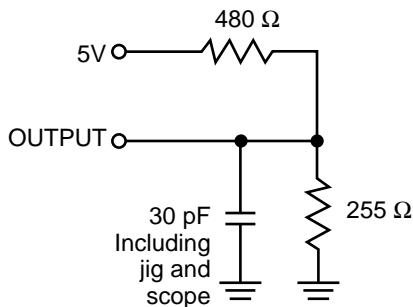

Figure 1a.
1. Test conditions assume signal transition times of 5 ns or less, timing reference levels of 1.5V, input pulse levels of 0 to 3.0V and output loading specified in Figure 1a.
Output Load	See Figures 1a and 1b
1. Test conditions assume signal transition times of 3 ns or less, timing reference levels of 1.5V, input pulse levels of 0 to 3.0V and output loading specified in Figure 1a.